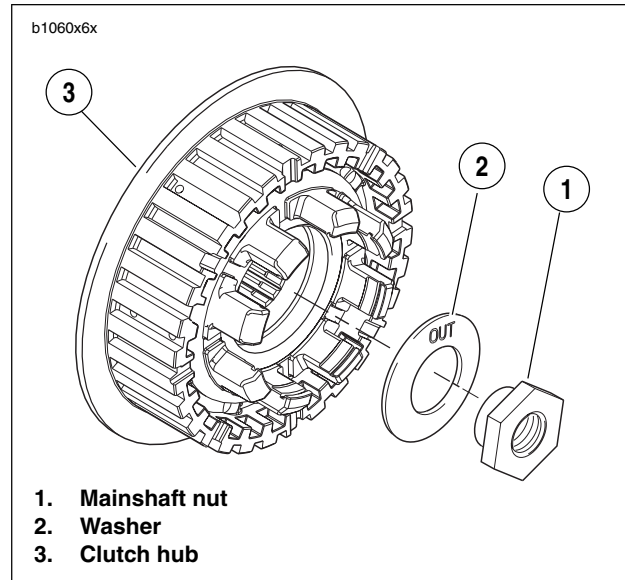

Figure 6-24. Mainshaft Nut and Washer
See Figure 6-24. Mainshaft nut has left-hand threads. To prevent damage, turn nut clockwise to loosen and remove from mainshaft.
6. See Figure 6-24. Remove mainshaft nut and washer.